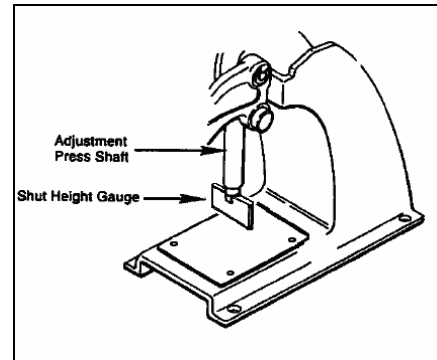

Figure 2
3. Place the shut height gauge across the press base. (See Figure 2)